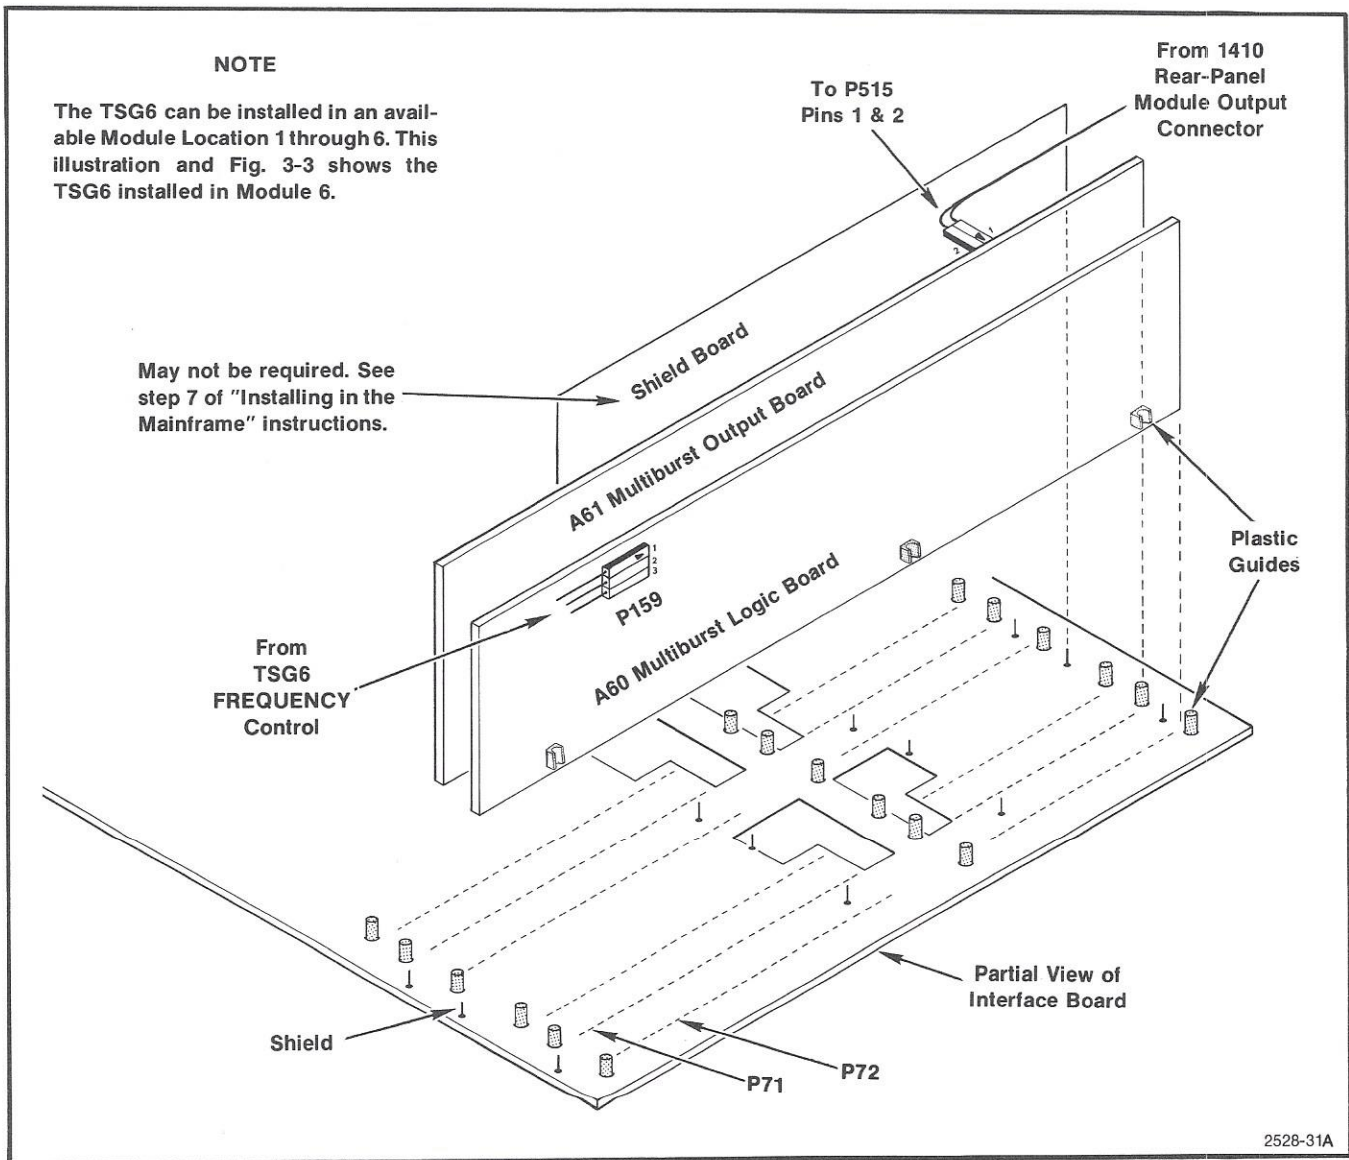

Fig. 3-2. Installing the TSG6 module in the 1410 Generator mainframe.
5. Position the A60 Multiburst Logic board over the right row of the mainframe interface pins at the selected location; for example, P72 at Location 6 as shown in Figs. 3-2 and 3-3. Use the plastic guides for proper pin alignment. Seat the board firmly on the Interface board.
6. Position the A61 Multiburst Output board over the middle row of interface pins; for example, P71 at Location 6 as shown in Figs. 3-2 and 3-3. Use the plastic guides for proper alignment. Seat the board firmly on the Interface board.
9. Connect the TSG6 FREQUENCY control cable multi-pin connector to P159 on the A60 Multiburst Logic board. See Fig. 3-2. Also, refer to Fig. 8-1 in Section 8.
10. Connect the appropriate 75-ohm coaxial cable from the 1410 rear-panel Module Output connector to P515, pins 1 and 2, on the A61 Multiburst Output board. See Fig. 3-2. Also, refer to Fig. 8-2 in Section 8.